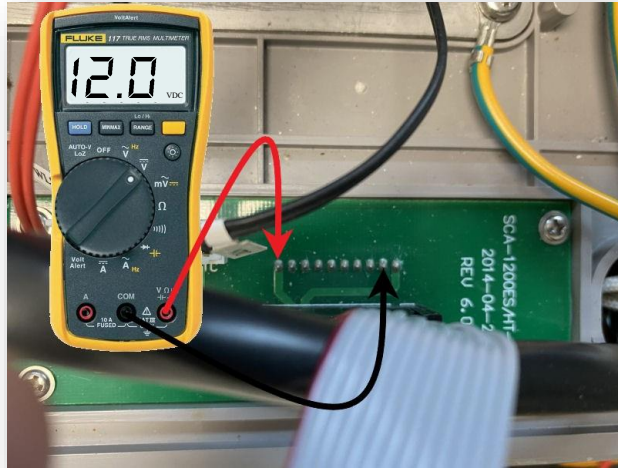

Figure 51 – Control Panel Connections
a. Measure the voltage between pin 2 (GND) and pin 10 (12V DC) on the Connector Board J2 solder joints. There should be between 9V and 15V DC (usually around 12 or 13 V DC) (**See Figure 51**).